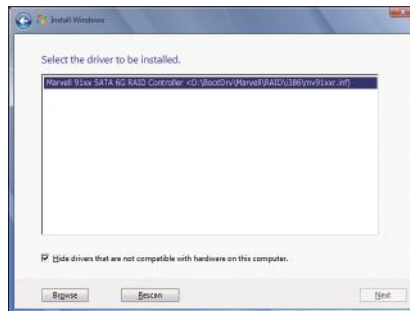

Figure 1
When a screen as shown in Figure 1 appears, select **Marvell 91xx SATA 6G RAID Controller** and click **Next** to load the driver and continue the OS installation
- 2: From your optical drive folder, double click the `Menu.exe` file in the `BootDrv` folder. A Command Prompt window will open similar to that in Figure 1.